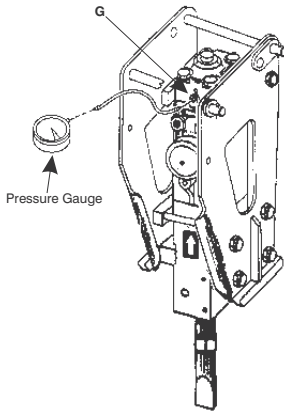

Figure 11-4. Typical Hy-Ram Nitrogen Precharge Chamber
11.2.9 Checking the Nitrogen Precharge Chamber. (Refer to Figure 11-4.)
4. Firmly insert test gauge hose into fill valve. Refer to Figure 11-4.